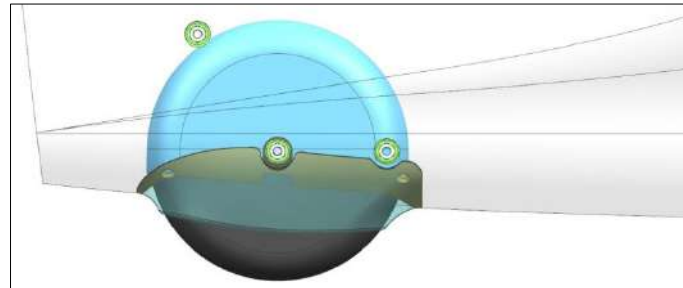
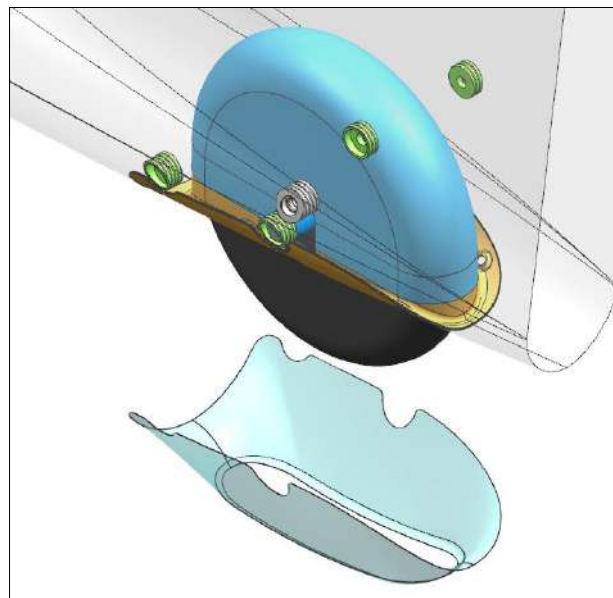

Figure 32-29: Tail wheel fairing installed
Figure 32-30: Tail wheel fairing removed
1. Remove the tail wheel fairing by removing the electrical tape securing the fairing to the fuselage (Figure 32-29 and Figure 32-30).
4. Installation is the reverse of removal. Install the bolt M8H91/102 from the left and the M8 half nut on the right. Secure the fairing to the fuselage with electrical tape (Figure 32-29 and Figure 32-30).